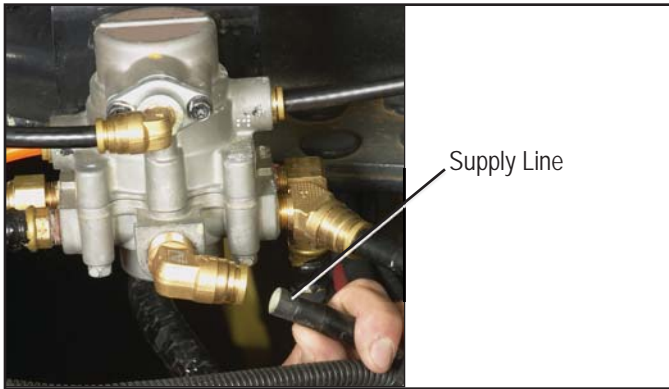

Figure 3 - DISCONNECTING THE SUPPLY LINE
4. Remove the 1/2" OD supply line from the external single check valve supply port. See Figure 3.